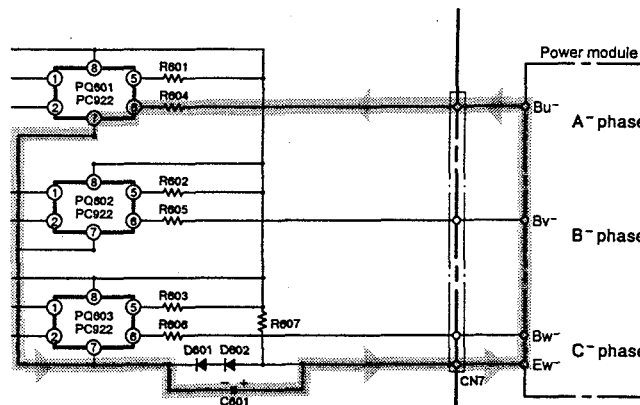
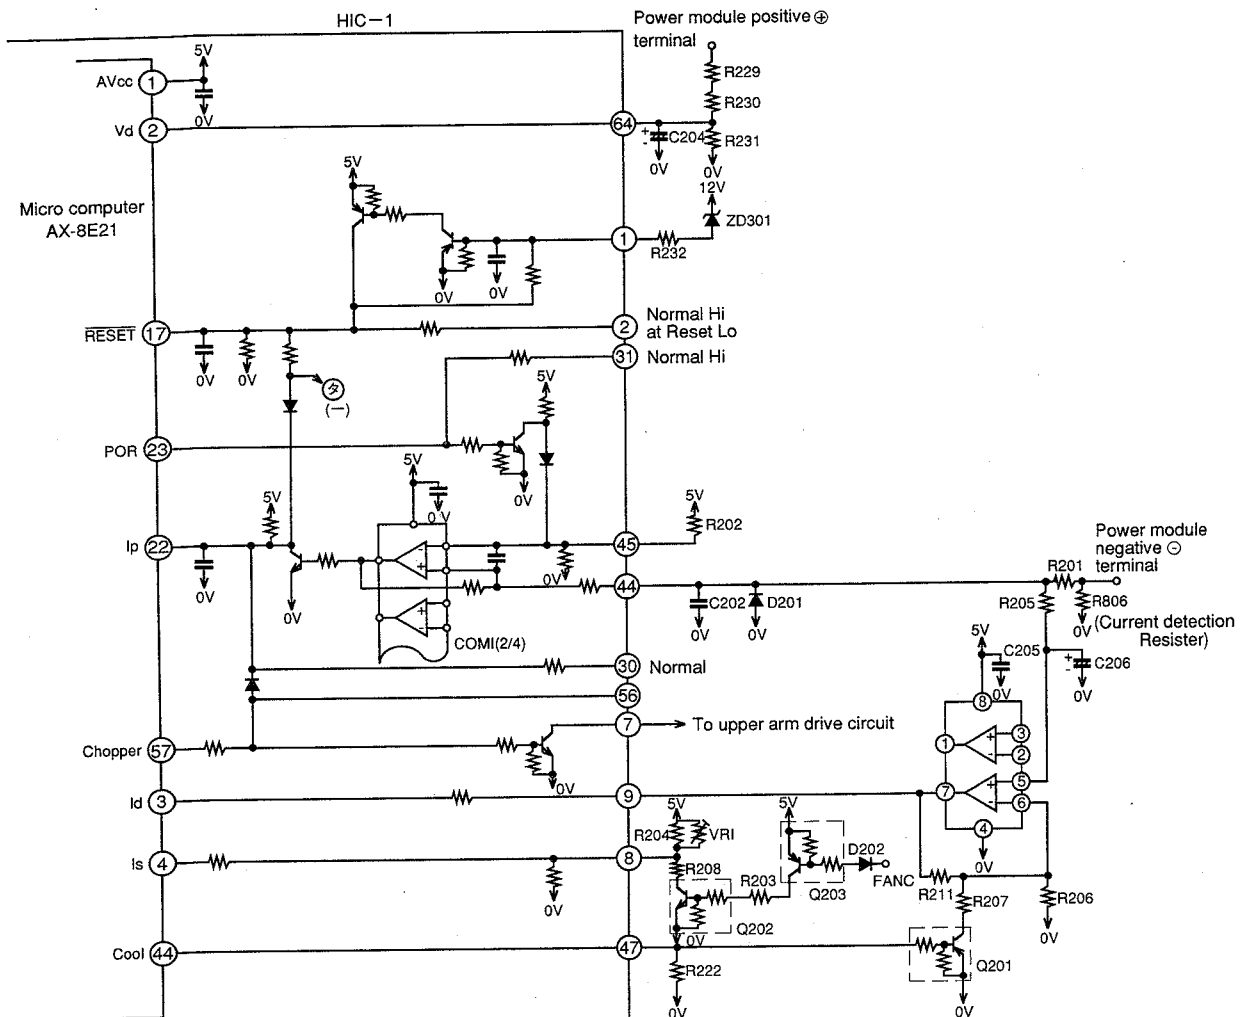

Fig. 7-5
Fig. 8-1 Micro computer(AX-8E21) and peripheral circuits
- When pin ③⑤ of the micro computer goes "Hi" → "Lo", a photocoupler between PQ601 pins ① and ② turn off and reverse bias current flows to C601 → power module's Ew⁻ terminals → Bu⁻ terminals → R604 → PQ601 to cut off the lower arm transistors. (Fig. 7-5)
- When the peak current cut off function operates, HIC-1 ③⑩ pins become 0V, PQ501-PQ503 and PQ601-PQ603 turn off and the upper/lower arm drive circuits stop.
- When a reset signal is applied, HIC pins ⑦ and ③② become open, PQ501-PQ503 and PQ601-PQ603 turn off and the upper/lower arm drive circuits stop.
- Fig. 8-1 shows the micro computer and its peripheral circuits, Table 8-1, the basic operations of each circuit block, and Fig. 8-2, the system configuration.